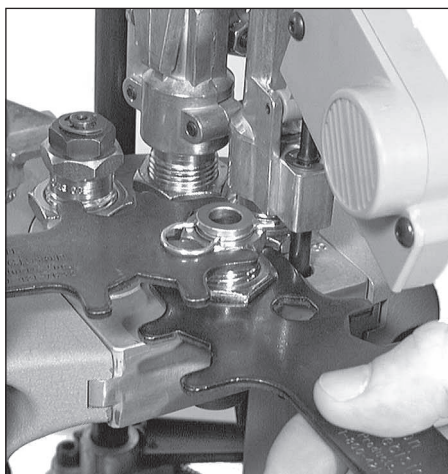

FIG 67
4. Once you have obtained the proper OAL, replace the cartridge into Station 4 and raise the platform. Using a 1" wrench to turn the locking ring and a 7/8" wrench to hold the die body, snug the lockingring FIG 67.